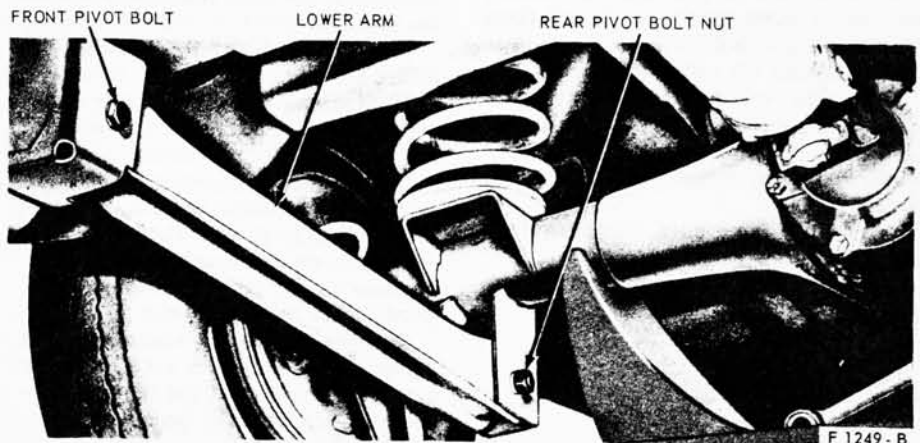

FIG. 6—Rear Suspension Lower Arm Installed
a new pivot bolt and nut (Fig. 6). Do not tighten the nut at this time.
2. Position the lower arm to the axle bracket and install a new bolt and nut (Fig. 6). Do not tighten the nut at this time.